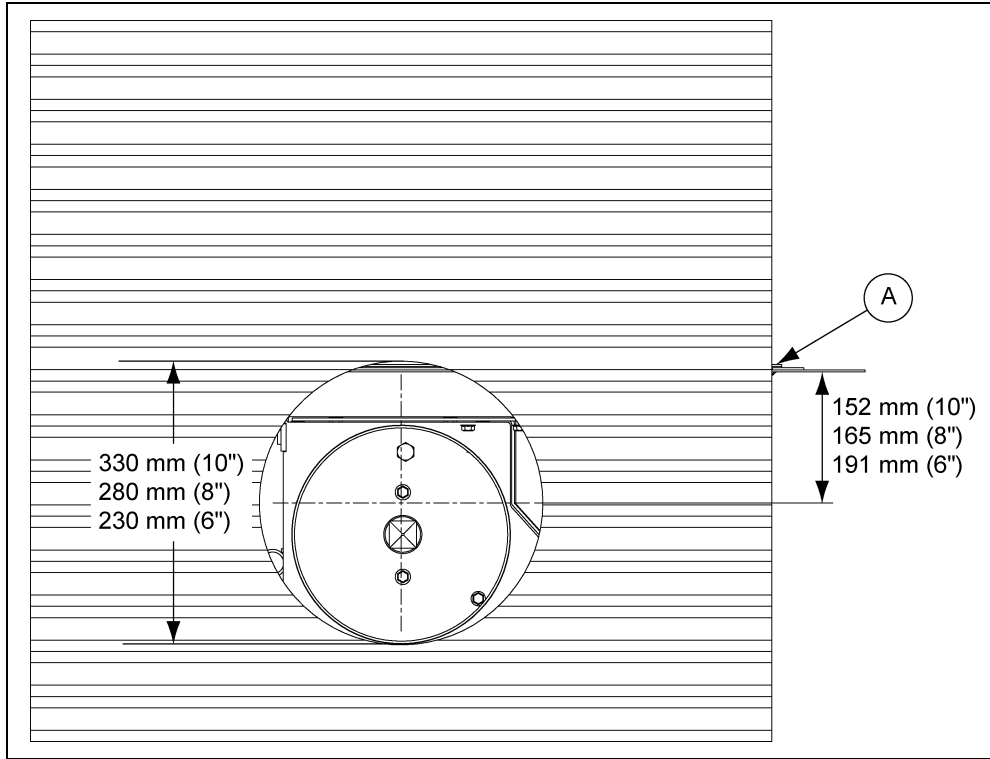

Figure 4E Wall Cut-Out
1. Cut an opening in the bin wall for the unloading tube to pass through. See chart on Page 21 for hole information. (See Figure 4E.)